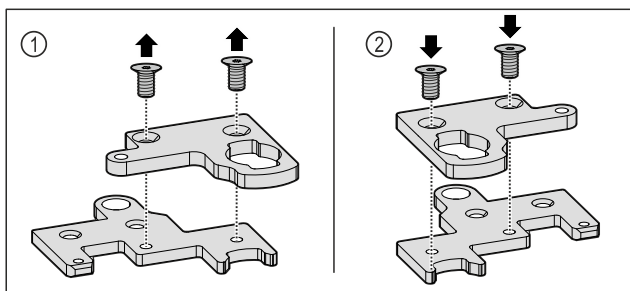

Fig. 35
- Disassemble the two-part hinge bracket. Fig. 35 (1)
- Reassemble the two-part hinge bracket rotated by 180°. Fig. 35 (2)